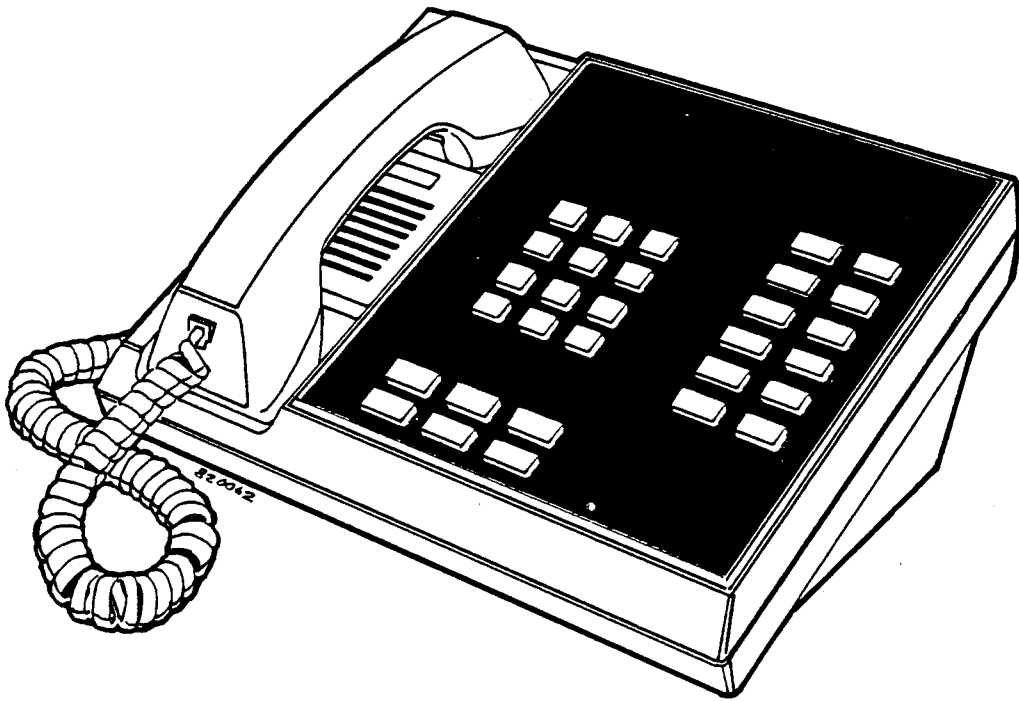

Figure 1-1 TC-12 ELECTRONIC KEY TELEPHONE
2.07 The electronic key telephone used in the TC-8 DS system is available in two configurations: TC-12 (Figure 1-1), and TC-22 (Figure 1-2). Each provides access to system features; however, the number of available DSS keys varies with the telephone used.